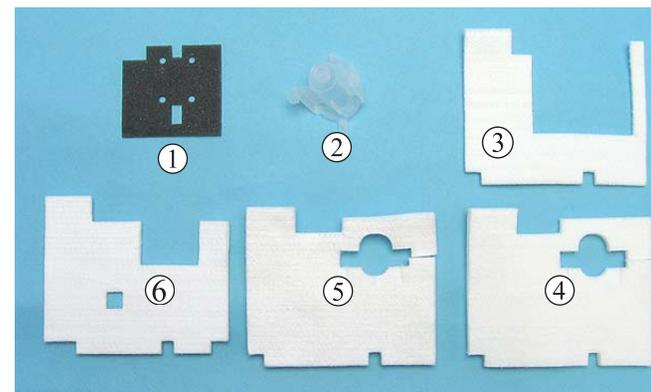

Figure 4-72. Installing Waste Ink Pads (1)
- When installing (2) in the section (B) (refer to Figure 4-72), be sure to match the positioning tabs and press (2) until it clicks to secure it in the right position.
- When installing the Waste Ink Pads on the section (B), be sure to lay the six parts one on top of another in the order shown in the figure.